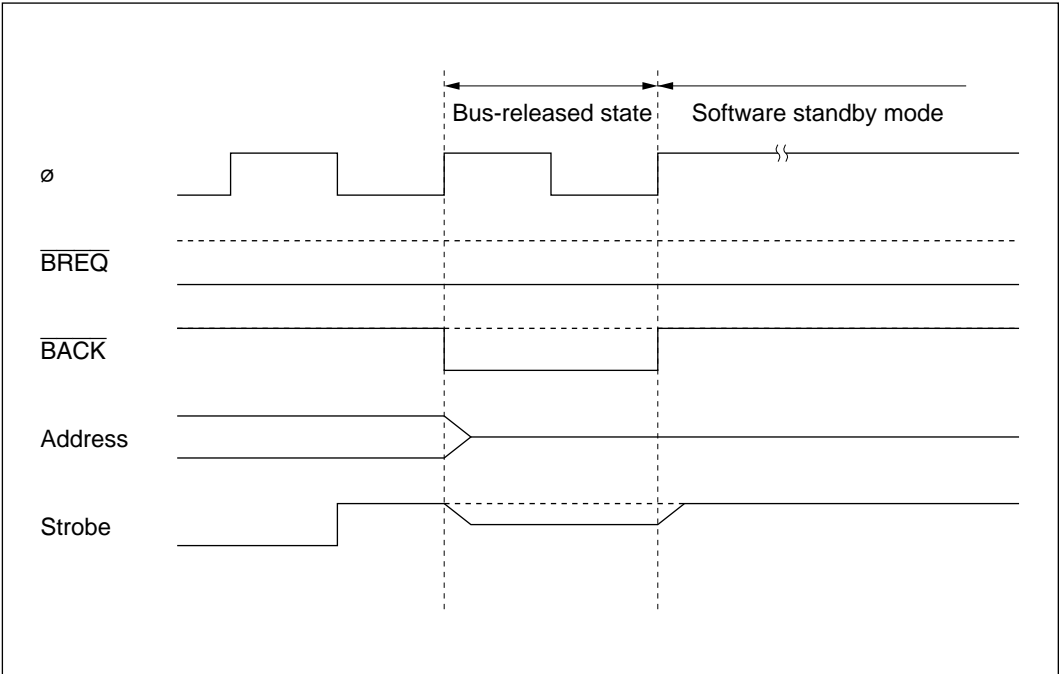

Figure 7-24 Contention between Bus-Released State and Software Standby Mode
- If contention occurs between a transition to software standby mode and a bus request from an external bus master, the bus may be released for one state just before the transition to software standby mode (see figure 7-24). When using software standby mode, clear the BRLE bit to 0 in BRCCR before executing the SLEEP instruction.